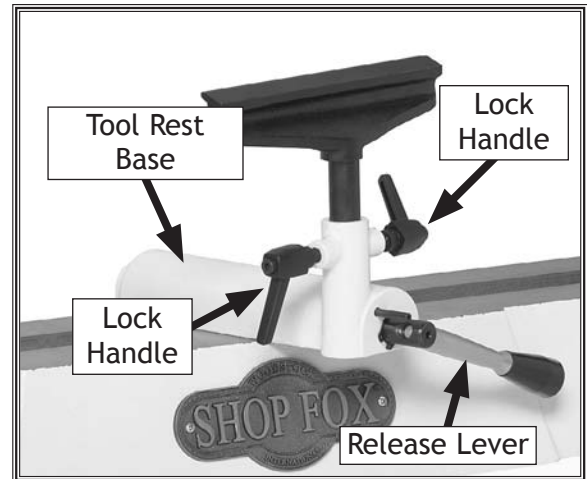

Figure 9. Tool rest controls.
1. Loosen the release lever and slide the tool rest base along the bed (**Figure 9**).
1. Loosen the lock handles (**Figure 9**) and adjust the tool rest vertically or swivel it as needed.